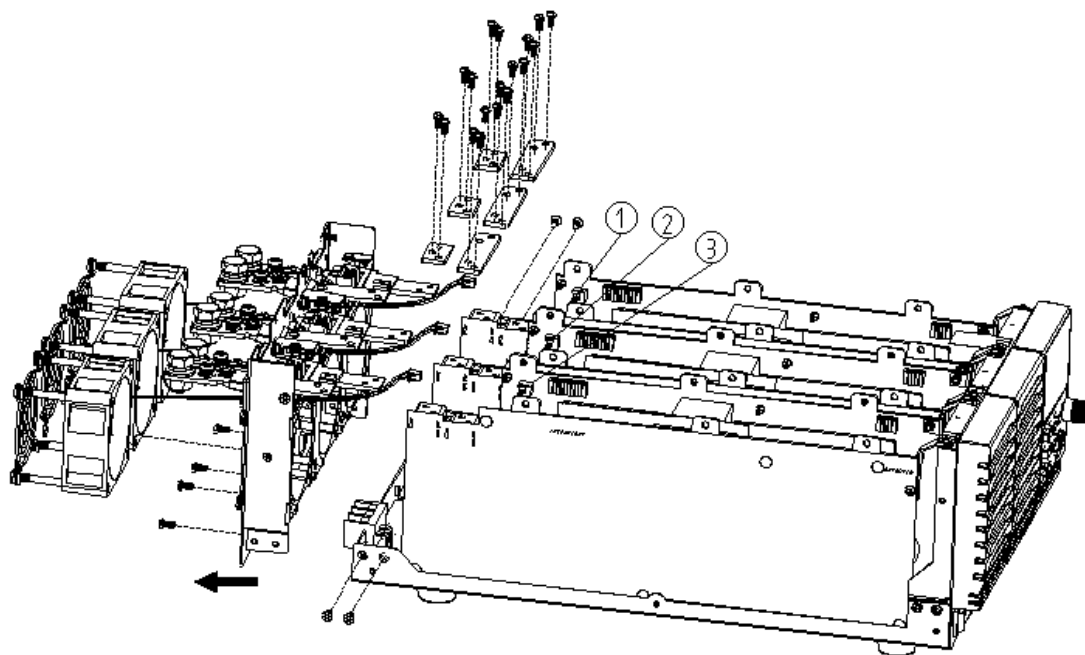

Figure 4-3
**Step1** Remove 18 PM3\*10 screws and 6pcs copper sheets as shown in Figure 4-3
**Step2** Pull out ① ② ③ fan connecting cable